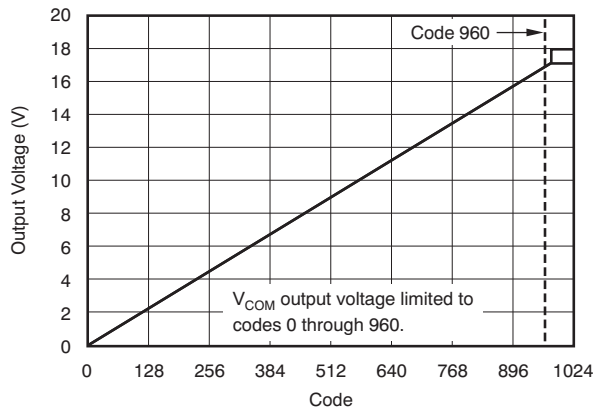

Figure 3.
(3) Observe maximum power dissipation.
(4) The V_{COM} output voltage is limited to codes 0 through 960; see Figure 3. This limitation is for V_{COM} only and does not affect DAC OUT, 1 through 8.
(5) Thermal pad attached to printed circuit board (PCB), 0lfm airflow, and 76mm \times 76mm copper area.